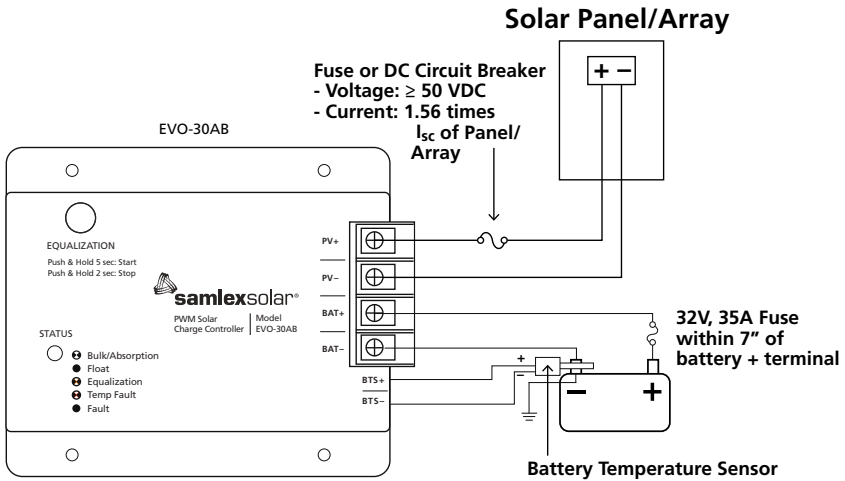

Fig. 6.2. EVO-30AB Wiring Diagram
1. The connections to the EVO-30AB terminals are shown in the drawing in Fig. 6.2. A barrier type of Terminal Strip has been provided for connecting the PV array and the battery. M-4 screws with clamping washers are used to make the connection. Use a flat or a #2 Philips head screw driver to tighten screws. Tighten each screw to 20 inch-pounds of torque. The distance between the barriers is 9 mm and a standard Spade Type of terminal lug meant for #8 Stud and AWG #10 – AWG #12 wire may be used at the end of the wires to be connected to these terminals. **4 terminal lugs with #8 stud and #10-12 Awg cable provided as well as 4 terminal lugs with #8 stud and #8 Awg cable are provided.**
BTS consists of a temperature sensing probe that is installed on the (-) Negative battery post (Fig. 6.2). The temperature of the battery post reflects the approximate temperature of the electrolyte. A pair of 10 metres wires (marked + & -) connect the temperature sensing probe to the 2 terminals marked (+) BTS and (-) BTS.